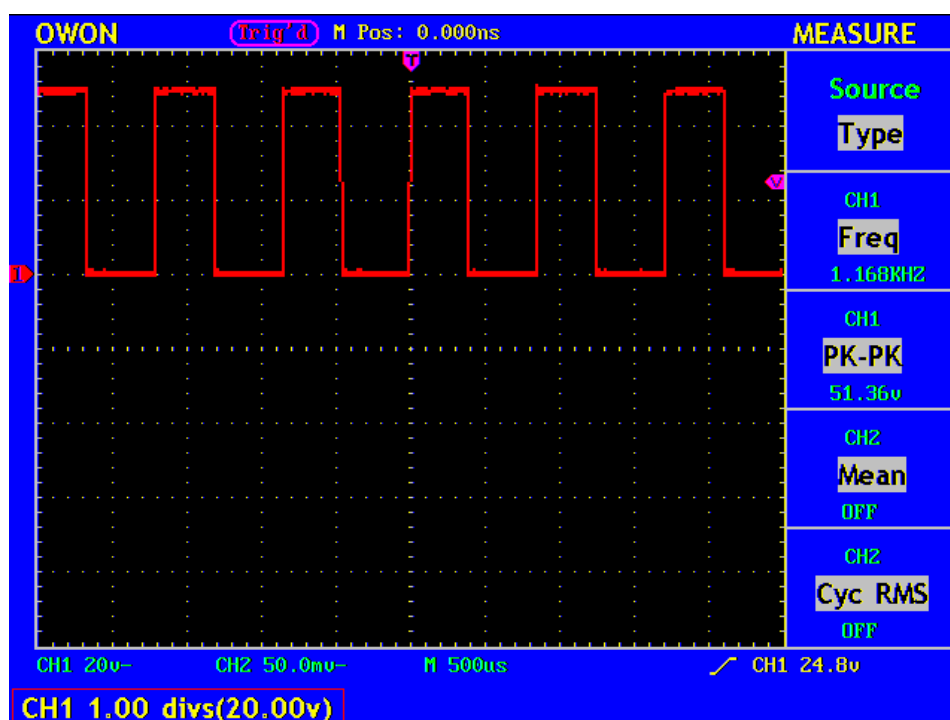

Fig.25 Information about Vertical Position
3. When the vertical position of the channel wave form is adjusted, the screen shows the information concerning the vertical position at the lower left corner (see Fig.25).